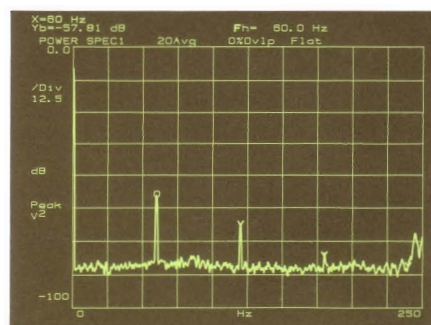

Figure 5-8
**4. Start** Press the yellow **START** key. The demodulation results are displayed as a baseband spectrum as shown in Figure 5-8. Notice that the frequency span of the demodulated spectrum is one-half that of the initial zoom span (this is always the case in demodulation).